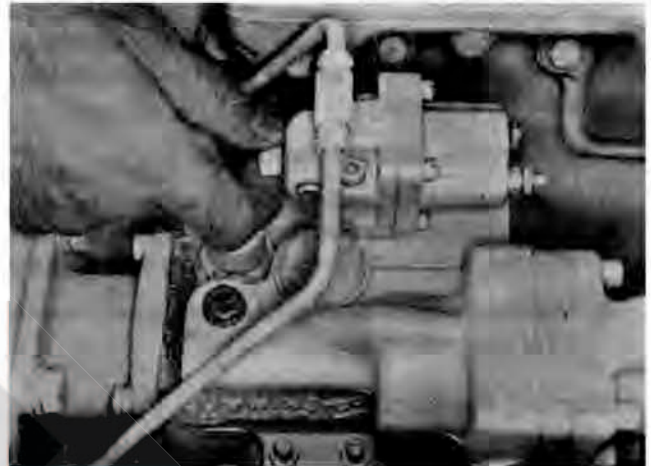

Fig. 1-5, (V21970). Using manual override knob
3. Open the manual fuel shut-down valve, if so equipped. Fig. 1-5. Electric shut-down valves operate as the switch is turned on. A manual override knob provided on the forward end of the electric shut-down valve allows the valve to be opened in case of an electric power failure. To use, turn fully clockwise; return it to the run position after an electric repair.